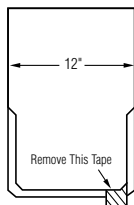

Figure 18-15: Shangle Ridge
5. Before nailing, be sure to remove the protective tape from the sealant between the cap's two layers (see Figure 18-15).